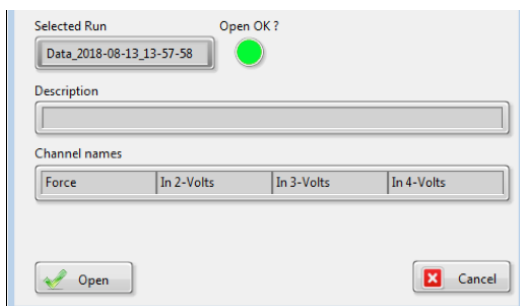

Fig. 23—The *Open Data File* dialog box displays the user-entered description in the *Description* text box.
- Prompt for description at experiment start**—Select this check box to allow you to enter a brief description of each experimental run and attach that notation to the recording. Entering descriptions for each run makes a file easier to locate when it is needed again. For example, the description entered in this text box appears in the *Open Data File* dialog box next to the file run number (Fig. 23).